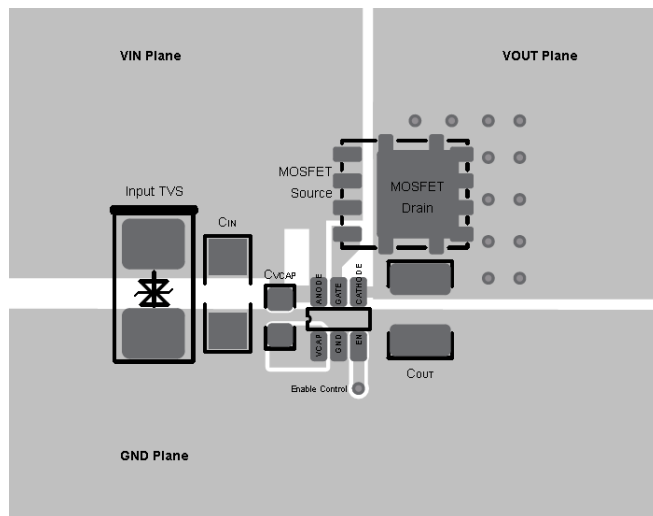

Figure 10. SOT-23-6 Layout Example
- Acceptable results can be obtained with different layout designs, but the layout in Figure 10 is a recommended approach for achieving good performance.